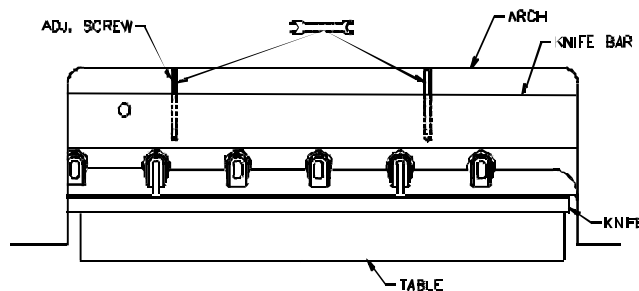

Figure 16
3. Back off the knife adjusting screws on the top of the knife bar, (Figure 16), as far as they will go (counter-clockwise). A new knife will cut deeper than a knife that has been ground several times. If the adjusters are not backed off, damage can result to the new knife and/or the cutting stick.
2. Check to make sure the paper deflector is locked down, see Knife Removal, step 2 above. Also check that the knife adjusters have been backed out, (Figure 16 on page 44).